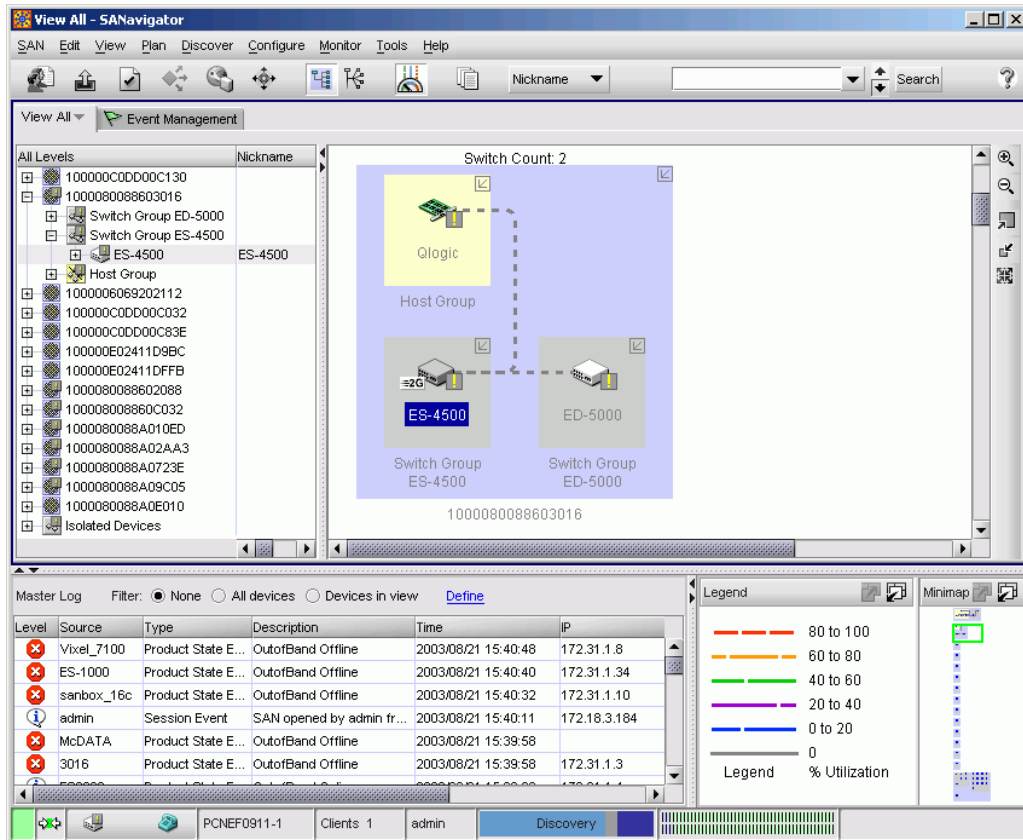

Figure 2-68 Main Window (SANavigator or EFCM)
3. Click *Login*. The application opens and the SANavigator or EFCM main window appears (Figure 2-68 on page 2-73).